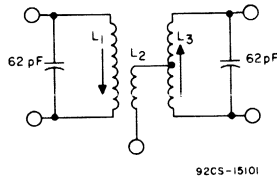

Fig. 9 - 10.7 MHz discriminator transformer for CA3043.
* See Fig.9 for details on Discriminator Transformer.